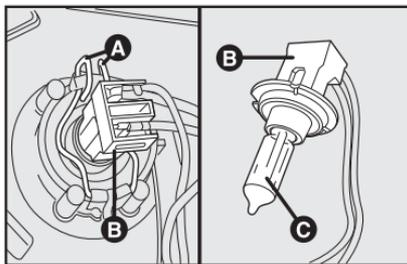

fig. 17
- 2) Desengatar as molas **A-fig. 17**, retirar o conector **B** e remover a lâmpada **C**.